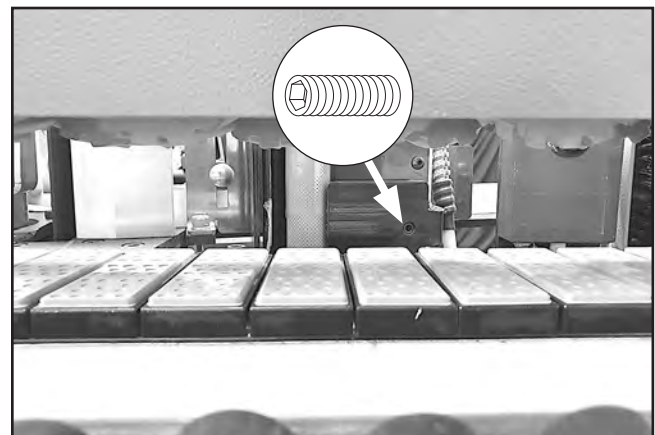

Figure 50. Location of guide plate set screw.
8. Turn set screw located in face of guide plate to adjust depth (see **Figure 50**).